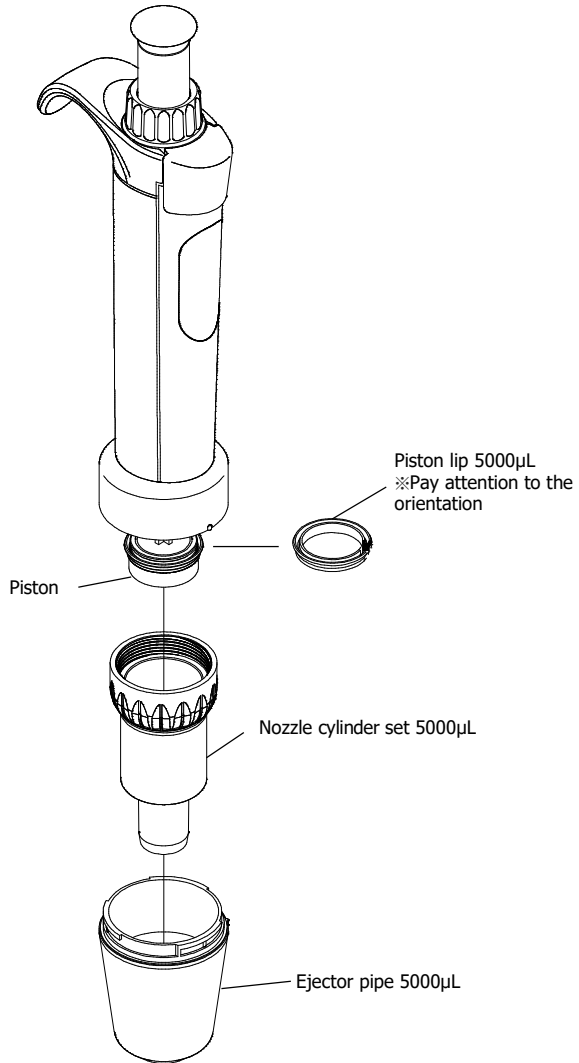

Fig. 4-14
- 5000 μL , 10000 μL (Fig. 4-14, 4-15)